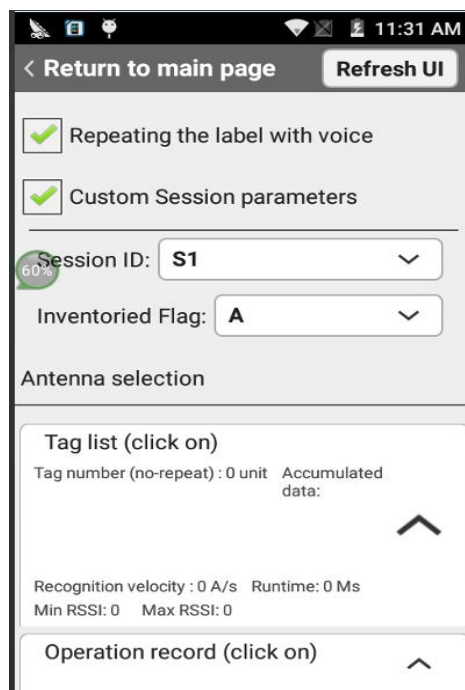

Figure 2.0
**1.1** Choose the option ‘Inventory tag real-time mode’, enable or disable function ‘Repeating the label with voice’ or ‘Custom session parameters’ according to your application scenario requirements as figure 2.0.